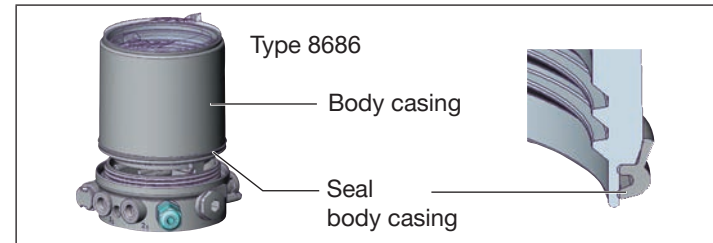

Fig. 24: Position of the seal in the body casing
- Check that the seal is correctly positioned in the body casing (see “Fig. 24”).